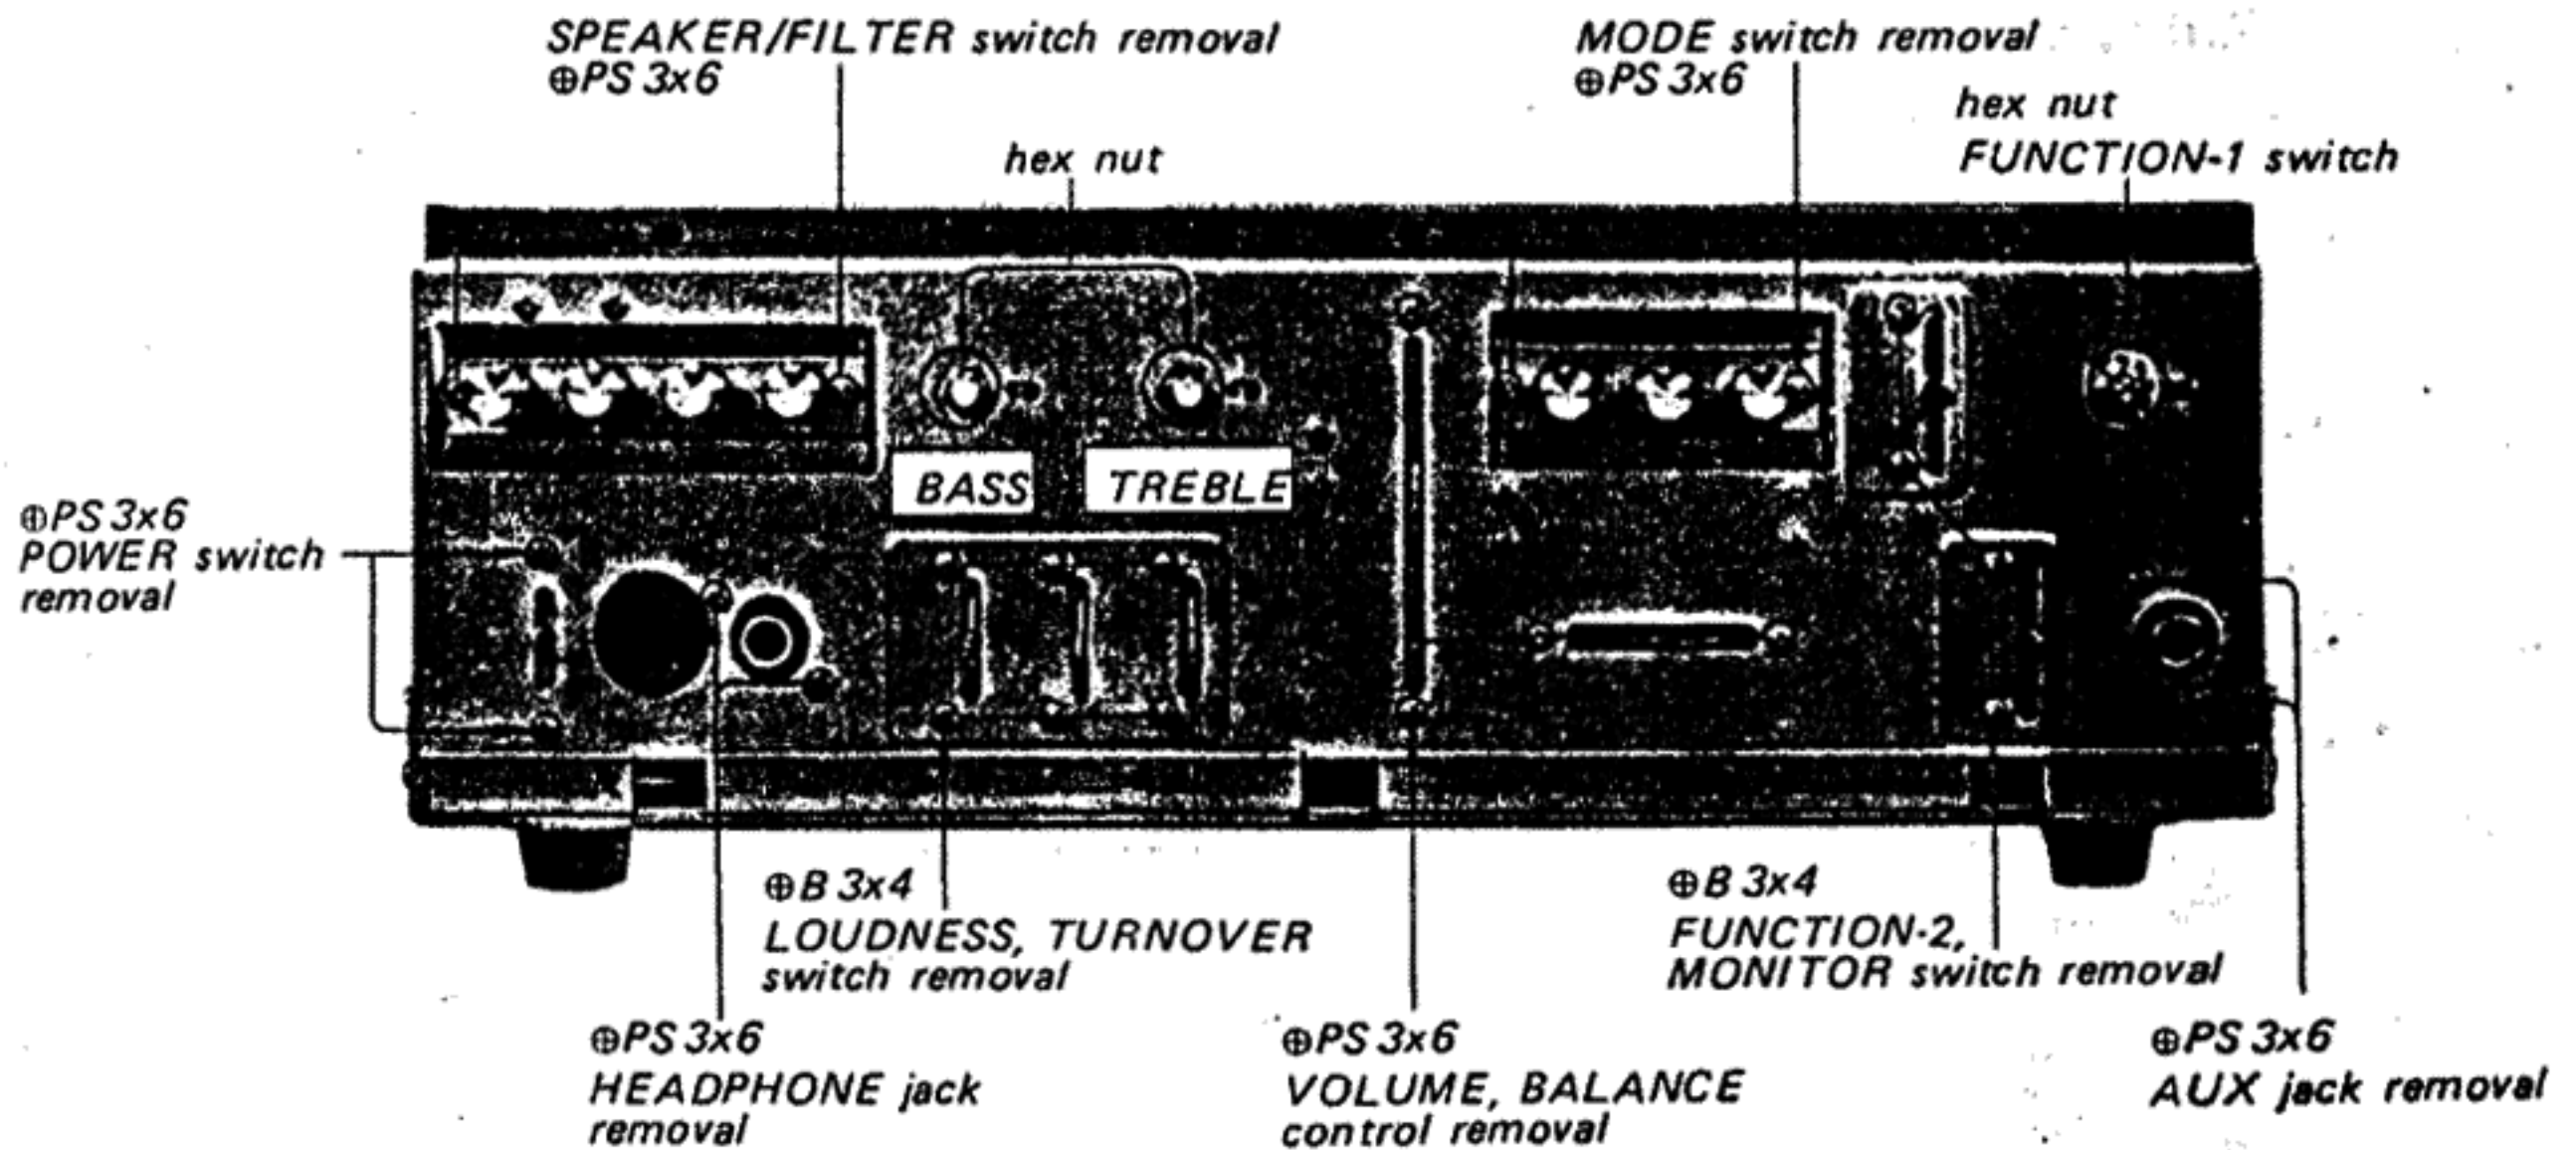

Fig. 2-5. Control and switch replacement
1. Remove the two screws securing switches to the front subchassis as shown in Fig. 2-5.
1. Remove the hex nuts that secure BASS and TREBLE controls to the front subchassis as shown in Fig. 2-5.
1. Remove the hex nut that secures FUNCTION-1 switch to the front subchassis as shown in Fig. 2-5.
2. Remove the two screws (⊕ PS 3x6) securing the combination switch to the front subchassis as shown in Fig. 2-5.
1. Remove the two screws (⊕ PS 3x6) securing the control to the front subchassis as shown in Fig. 2-5.
1. Remove the two screws (⊕ PS 3x6) securing the control or jack escutcheon to the front subchassis as shown in Fig. 2-5.